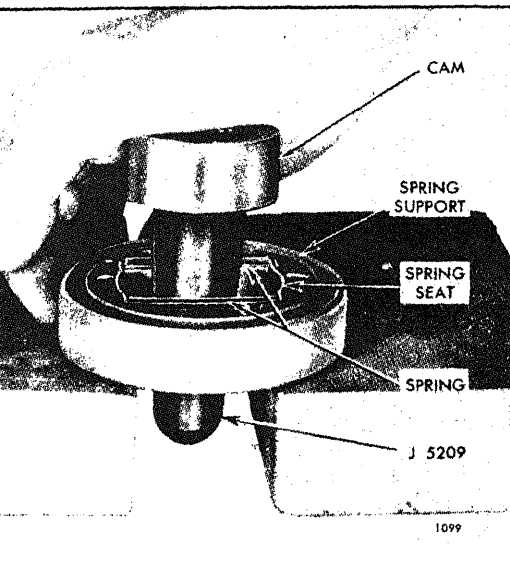

Fig. 17 - Inserting Cam in Blower Drive Support
- Place the drive spring support on two blocks of wood (Fig. 17).